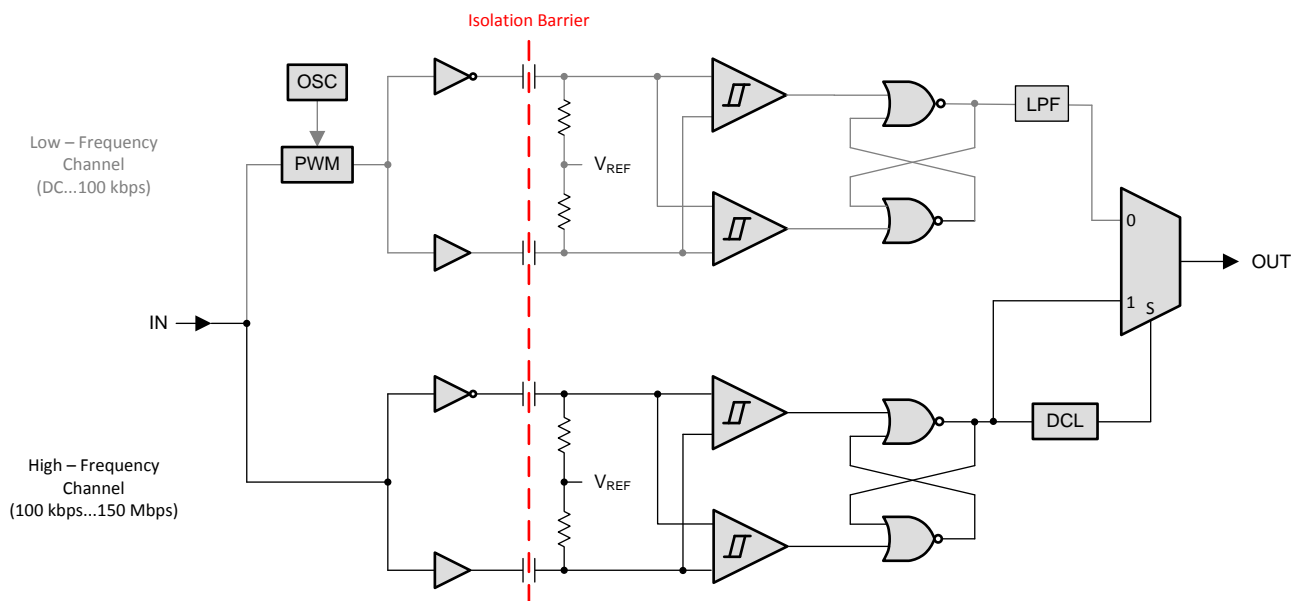

Figure 15. Conceptual Block Diagram of a Digital Capacitive Isolator
The isolator in Figure 15 is based on a capacitive isolation barrier technique. The I/O channel of the device consists of two internal data channels, a high-frequency channel (HF) with a bandwidth from 100 kbps up to 150 Mbps, and a low-frequency channel (LF) covering the range from 100 kbps down to DC. In principle, a single-ended input signal entering the HF-channel is split into a differential signal via the inverter gate at the input. The following capacitor-resistor networks differentiate the signal into transients, which then are converted into differential pulses by two comparators. The comparator outputs drive a NOR-gate flip-flop whose output feeds an output multiplexer. A decision logic (DCL) at the driving output of the flip-flop measures the durations between signal transients. If the duration between two consecutive transients exceeds a certain time limit, (as in the case of a low-frequency signal), the DCL forces the output-multiplexer to switch from the high- to the low-frequency channel.